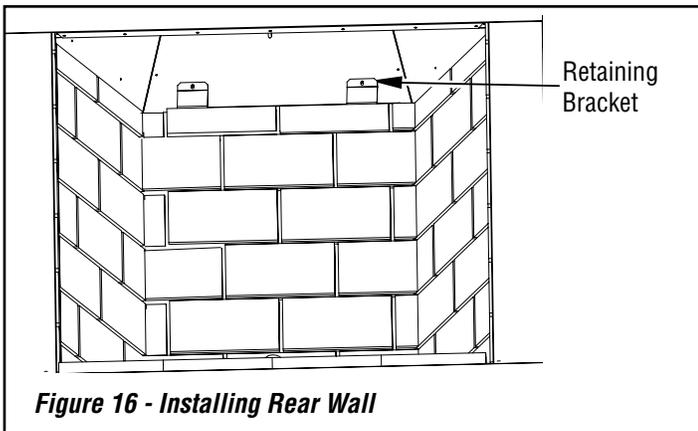

Figure 16 - Installing Rear Wall
5. Install the rear firebrick wall last. Place the wall face side down on the hearth with the bottom of the wall toward the rear of the firebox and the top toward the front of the fireplace. Tilt the wall up toward the back of the firebox. Secure with 2 rear retaining brackets provided (**Figure 16, Page 13**).